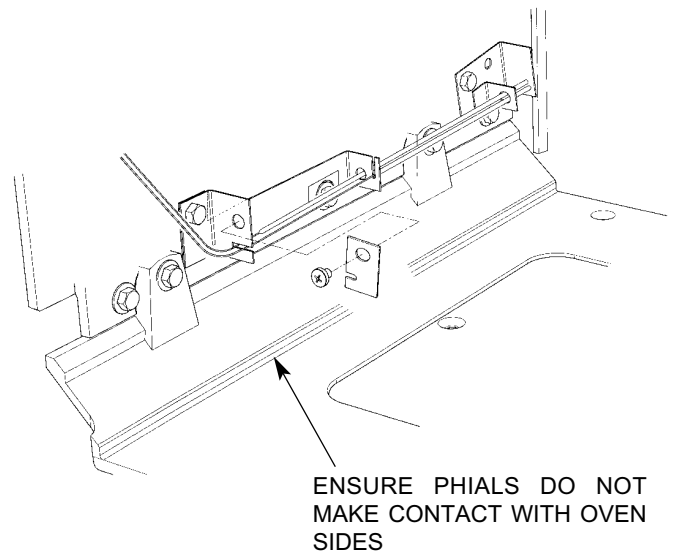

Fig. 33
3. Remove LH side plate, slacken screw where the phial passes through RH side and rotate. Slacken screw front phial mounting bracket rotate. (See Fig. 33).
SEE FIG. 33